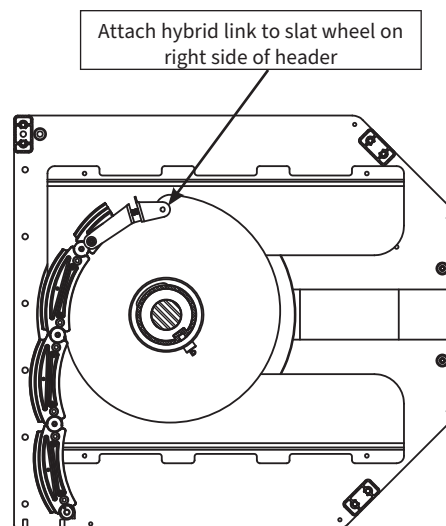

Figure 17: Attach Hybrid Link Assembly To Slat Wheel
- 1 Attach the hybrid link assembly 24B0935NN (see Figure 17 & 18), to the slat wheel.